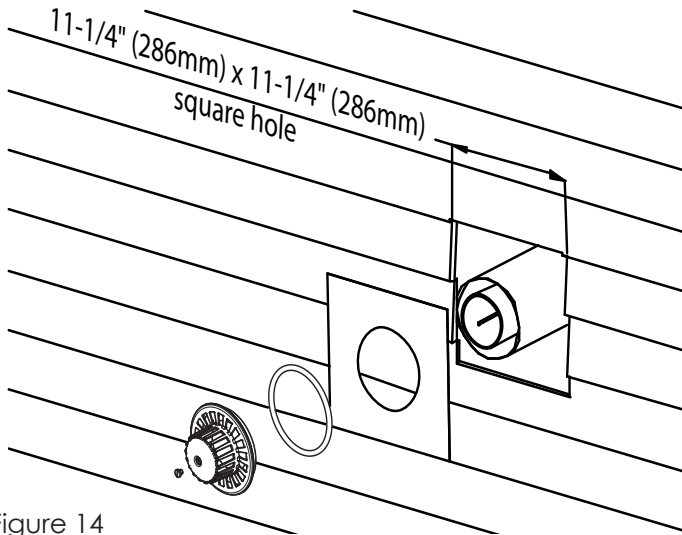
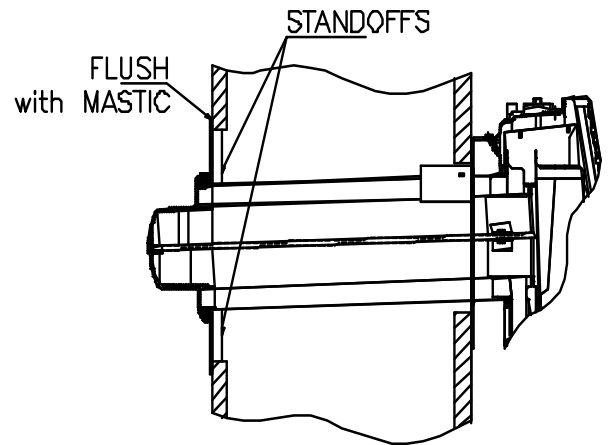

Figure 14
Figure 15
- (B) vent pipe
- (C) vent-air intake pipe
- (D) rod
- The hole at the outside of the wall must be a square of 11-1/4" (286 mm) X 11-1/4" (286 mm) (see figure 14).
- From the outside of the wall, screw the rod (D) slightly onto support located inside the appliance flue outlet.
- Wrap the vent-air intake pipe (C) with the provided insulation (i) (foil side out) and place the provided strip of tape (H) down the seam to secure it.
- Slide the vent pipe (B) and vent-air intake pipe (C) through the hole in the wall, and connect them to the appliance flue outlet and air intake, respectively.
- The outdoor mounting plate (F) and the silicon-rubber ring (G) should be installed between the vent cap (A) and the exterior wall. The outdoor mounting plate (F) must be positioned flush to the wall and with its standoffs inserted into the wall and sealed with a non-hardening mastic (silicone caulk). Position the outdoor mounting plate (F) so that the vent-air intake pipe (C) has a slight downward slope to the outside. The downward slope is necessary to prevent the entry of rainwater.
7. Before attaching the vent cap (A) to the exterior wall, run a bead of non-hardening mastic (silicone caulk) around its outside edge, so as to make a seal between it and the outdoor mounting plate (F) (see figure 15).
8. Slide the vent cap (A) into position and secure into place using the provided nut (E). Tighten nut (E) down until the vent cap (A) leans against the outdoor mounting plate (F) (see figures 14 and 15).